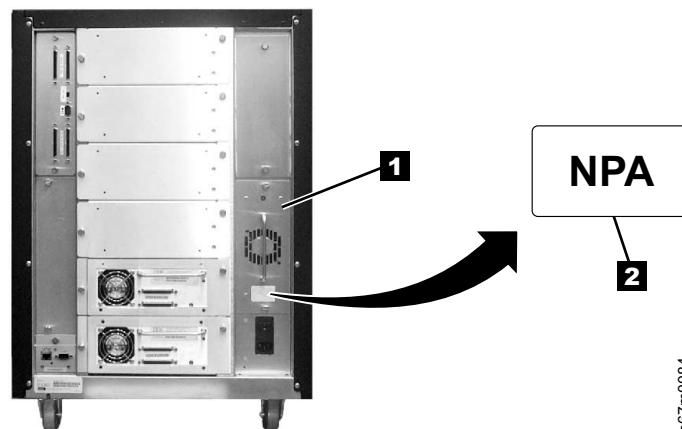

Figure 28. Installing a redundant dc power supply
1. Verify that the correct dc power supply is currently installed in the library by locating the dc power supply at the rear of the library (see **1** in Figure 28 and examining it for a label: